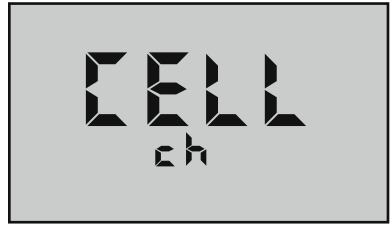

Figure 20
3. Press  repeatedly until you pass the “FAC SEL” location. The display will show “CELL ch” (see Figure 20).